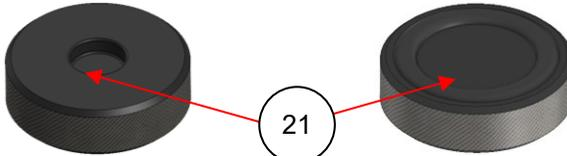
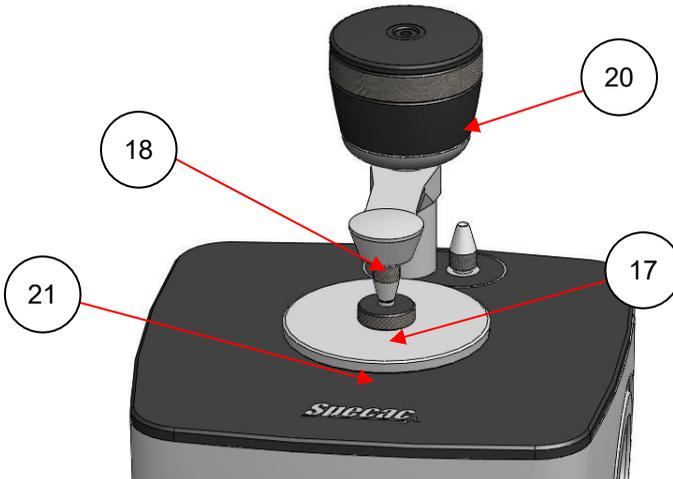

Figure 10-1: Volatiles Cover (top view left – underside view right)
Figure 10-2: Volatiles Cover clamped into position using the Flat Anvil with the Clamp Arm Assembly
Included with the Quest ATR Accessory is a volatiles cover (21), compatible with the Standard and Liquid Pucks. A larger volatiles cover is supplied with the heated puck. This can be used for sampling and containing liquid samples, particularly when they are volatile. The volatiles cover is a flat circular plate with an O-ring on the underside for sealing and a location groove on the top (See Figure 10-1). To use, place your sample onto the ATR crystal, place the volatiles cover over the sample and then clamped into position using the Flat Anvil (see page 20) as shown in Figure 10-2.